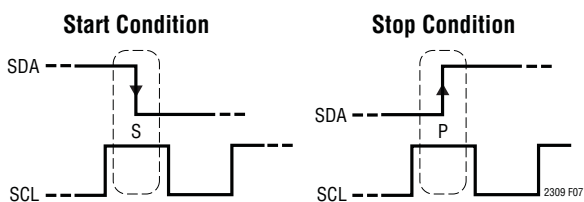

Figure 7. Timing Diagrams of Start and Stop Conditions
Referring to Figure 7, a Start (S) condition is generated by transitioning SDA from high to low while SCL is high. The bus is considered to be busy after the Start condition. When the data transfer is finished, a Stop (P) condition is generated by transitioning SDA from